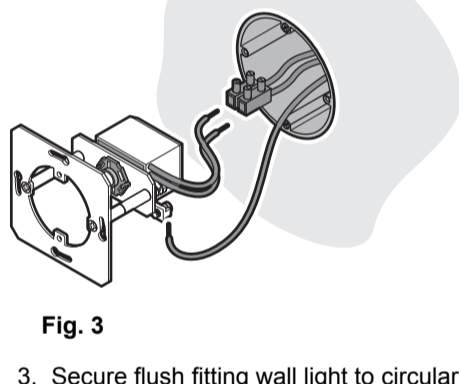

Fig. 3
2. Connect flush fitting wall light with terminal blocks to 230 V supply leads and earth lead (Fig. 3).